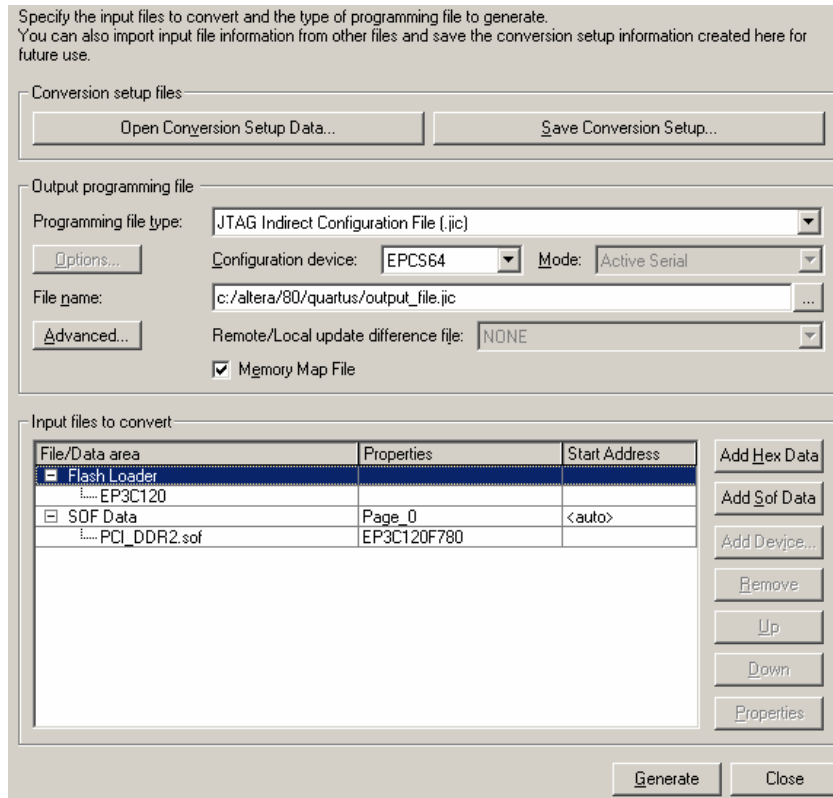

Figure 0.4. Convert Programming Files Page
10. Click OK. The **Convert Programming Files** page displays. See Figure 0.4.